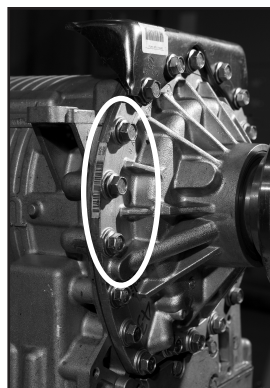

Figure 15
13. The 3 bolts on the transmission that will line up with the bracket must be removed. New longer bolts, M12-1.75 x 55 mm will be used for mounting the bracket to the transmission for all transmissions except 3000 Series w/ Retarders. For 3000 Series w/ Retarder use bolt size M12-1.75 x 140 mm (**Fig. 15 & 15a**).